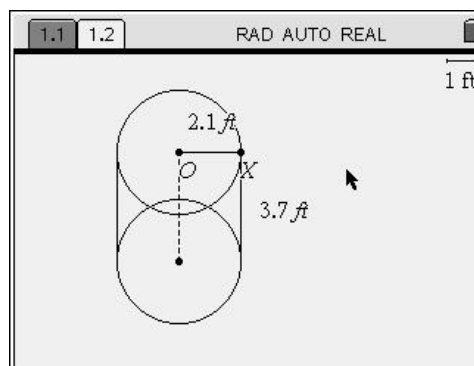

Figure 17
17. Change the unit of measurement to feet. Move the cursor to the upper right corner of the screen to the scale 1 cm., and position it over “cm” until the cursor changes to an I-beam. Press ENTER . Press CLEAR twice to delete cm, and type F T ENTER . All units should change to “ft”. (Figure 17)